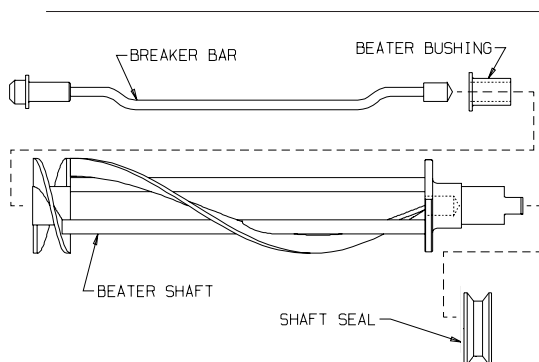

Figure 8-2 Assemble beater shaft
2. Install the shaft seal over the rear of the beater shaft (figure 8-2). Wipe off any excess lubricant on the beater shaft.
The beater bushing (shown in figure 8-2) must be installed or the freezer will be damaged.
4. Slide the bushing onto breaker bar and insert this assembly into the center of the beater shaft, making sure the bar fits into the hole in the rear beater shaft disc (figure 8-2).